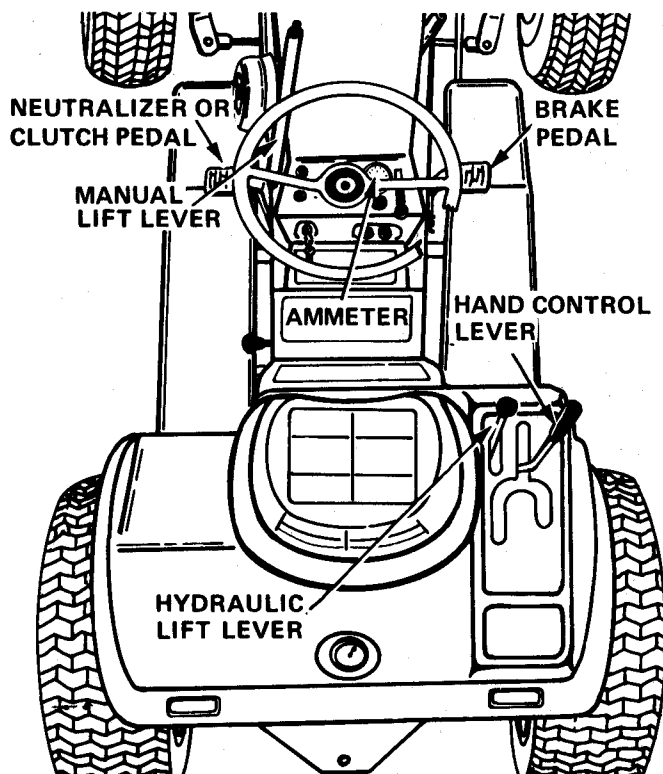

Figure 10
Hydraulic Lift Lever (Figure 10). This lever controls the hydraulic system used to raise and lower attachment. The lever has four positions — UP, HOLD, DOWN and FLOAT. The normal out-of-use position is the "HOLD" position, whereby the hydraulic cylinder is locked so that the tiller will not raise or lower.
Hand Control Lever (Figure 10). This lever regulates both tractor speed and direction. It controls the hydraulic drive on hydrostatic models; it shifts gears on the gear drive models.
2. Place the hand control lever in the "Park-Start" or "Neutral" position as shown in Figure 10. **NOTE:** This is a safety feature. The engine will not start unless the control lever is pulled all the way to the rear of the "Park-Start" slot or is in neutral position on gear drive models.
7. Move hand control lever, Figure 10, to a forward position and drive tractor to the area to be tilled.
10. With the lift lever, Figure 10, lower tiller to operating depth.